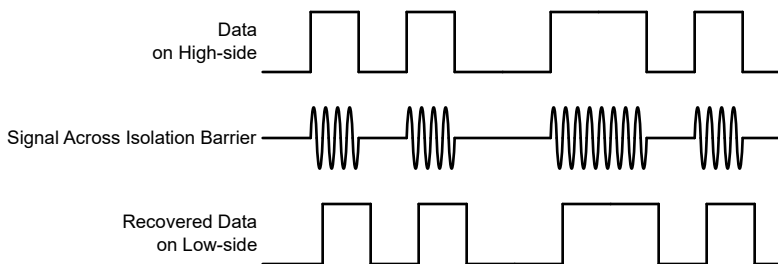

Figure 6-4. OOK-Based Modulation Scheme
The AMC23C12 uses an on-off keying (OOK) modulation scheme, as shown in Figure 6-4, to transmit the comparator output states across the SiO₂-based isolation barrier. The transmit driver (TX) shown in the Functional Block Diagram transmits an internally-generated, high-frequency carrier across the isolation barrier to represent a digital *one* and does not send a signal to represent a digital *zero*.